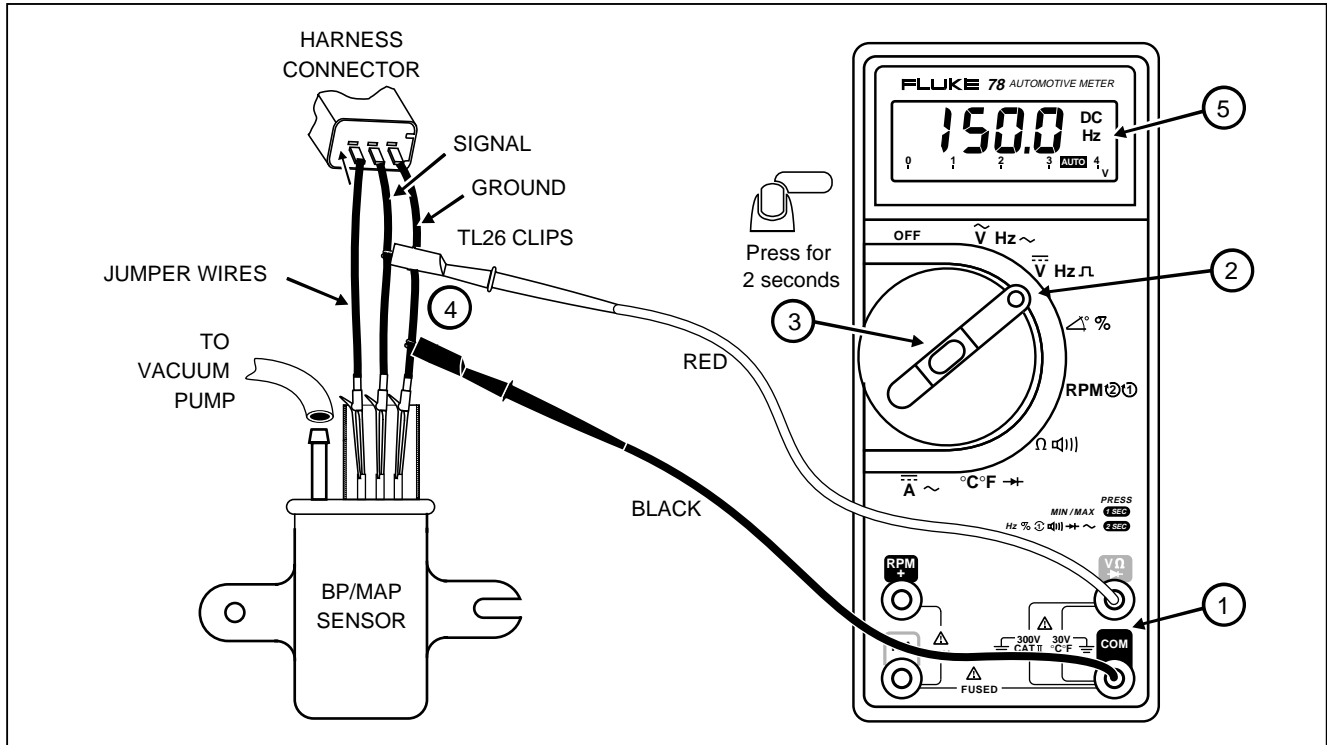

Figure 11. Checking Barometric Pressure/Manifold Absolute Pressure Sensor
1. Insert the test leads into the jacks (Figure 11).